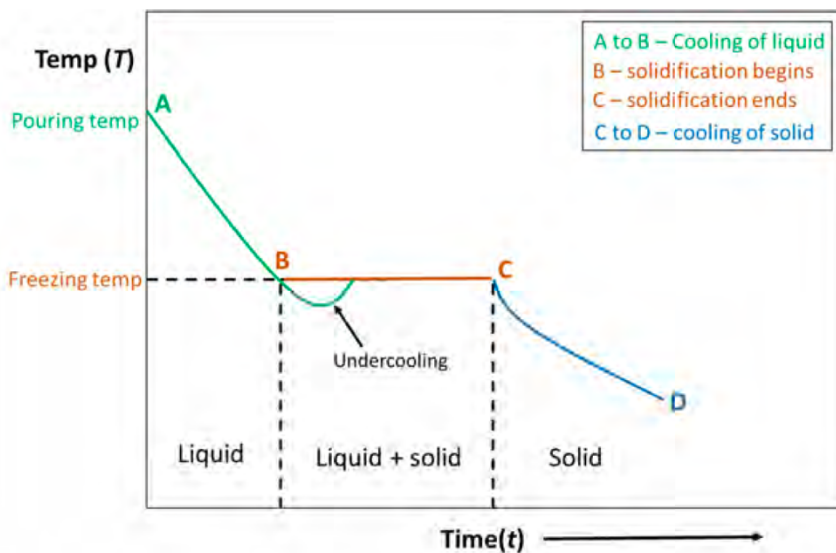

Fig. 2.6: Cooling curve of a pure metal
- **DIAGRAM REFERENCE:** FIG. 2.6 - COOLING CURVE FOR A PURE METAL.